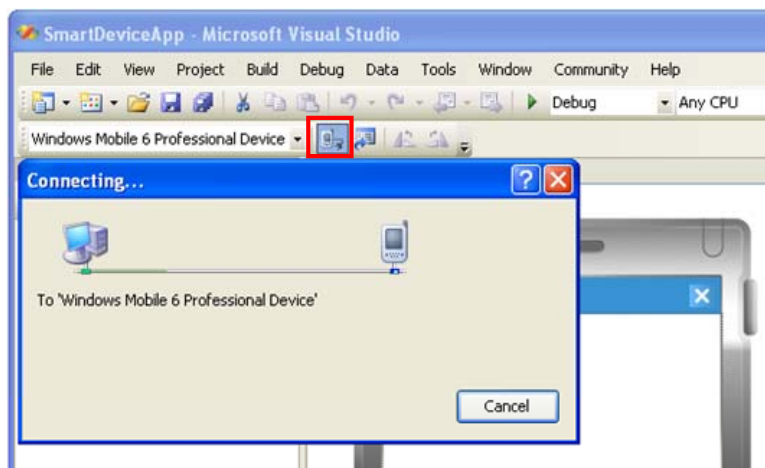

Figure 6.2
4. Click the button shown in the red box below (see Figure 6.2) to make sure that Visual Studio 2005 has recognized the connection established with IT-9000 via ActiveSync. If it does not, start up ActiveSync again to establish connection.